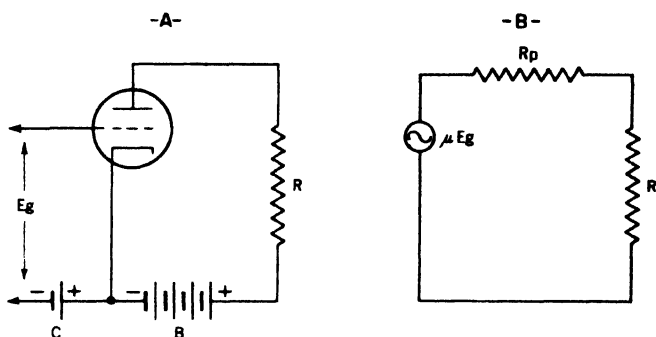

Fig. 37-12. *A*—Circuit of the triode as an amplifier.
**Power Output.** We can represent the circuit of the radio tube shown in Figure 37-12-A by its equivalent circuit in Figure 37-12-B. In Figure 37-12-A,  $E_g$  is the signal voltage applied to the grid of the tube, and  $R$  is the resistance of the load. Since the signal voltage ( $E_g$ ) multiplied by the amplification factor ( $\mu$ ) gives us the corresponding change in the plate voltage, in Figure 37-12-B the alternating-current generator marked  $\mu E_g$  represents the changing plate voltage.  $R_p$  stands for the plate resistance of the tube, and  $R$  for the resistance of the load. Since they both are in series, the total resistance offered to current flowing in the plate circuit is  $R_p + R$ .
**Voltage Amplification.** We have seen that the plate current ( $I_p$ ) flowing through the load resistance ( $R$ ) in Figure 37-12-A causes a voltage drop in  $R$  varying directly with the plate current. The ratio of this voltage variation produced in the load resistance to the input signal voltage ( $E_g$ ) is the *voltage amplification* or *gain*, provided by the tube. Thus,